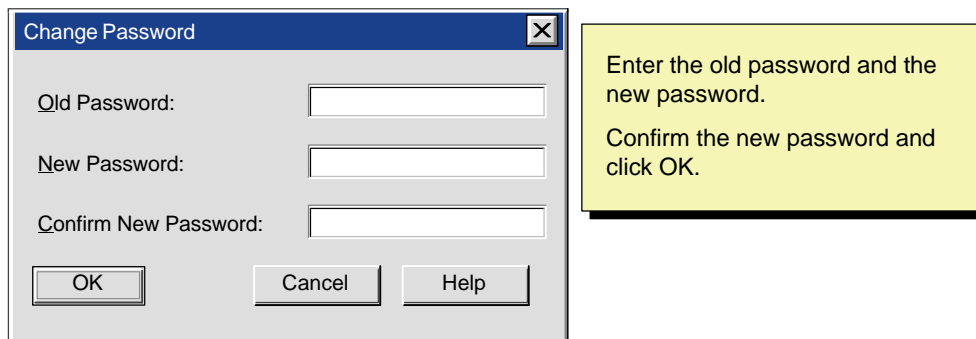

Figure 4-22 Changing a Password for WinLC RTX
4. As shown in Figure 4-22, enter the following information in the Change Password dialog box: